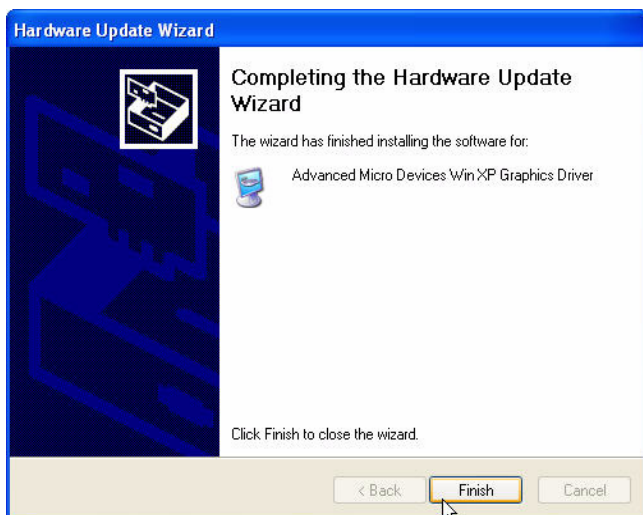

Figure 4.9: Update Wizard-7
Step 3: Then, go to “Device Manager” to update the driver. Click “PCI Serial Port” and then select “Driver” Tab to update driver as shown in Figure 4.9